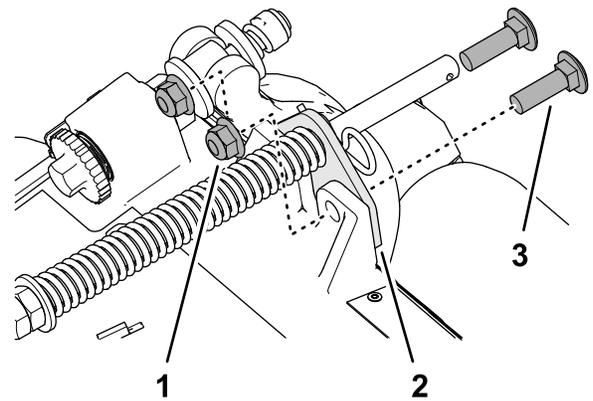

**Figure 10**
1. If the hairpin is installed in the rear hole of the compensation-spring rod—remove the hairpin and insert it in the hole next to the bracket (Figure 10).